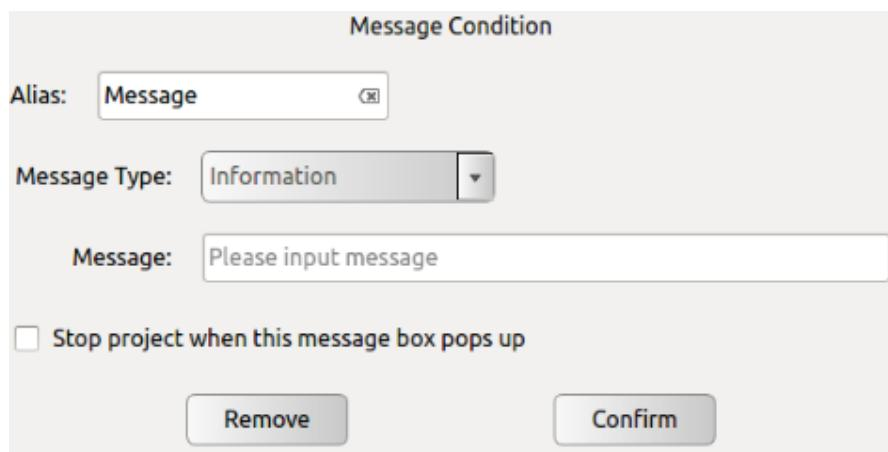

Figure 11.18 Message
- Click **【Input condition】** to input condition expression based on C language arithmetic rule, as shown in Figure 11.18(b). If the condition is evaluated to be true, the program inside this **If** are executed. If the expression evaluates to be false, the following **Else If** or **Else** statements will be executed.